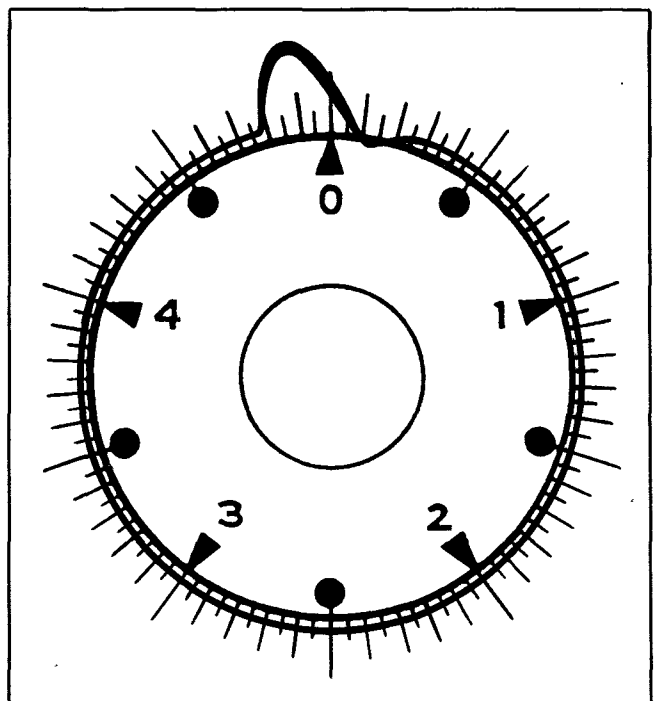

Figure 5-2. Shape of Transmitter Pulse
c. Observe pulse on the indicator. It should be approximately $\frac{1}{4}$ inch high and 200 feet wide at the base. (See figure 5-2.) If the pulse is abnormal, or if a secondary pulse appears about 500 feet to the right of the main pulse, the receiver-transmitter is defective.